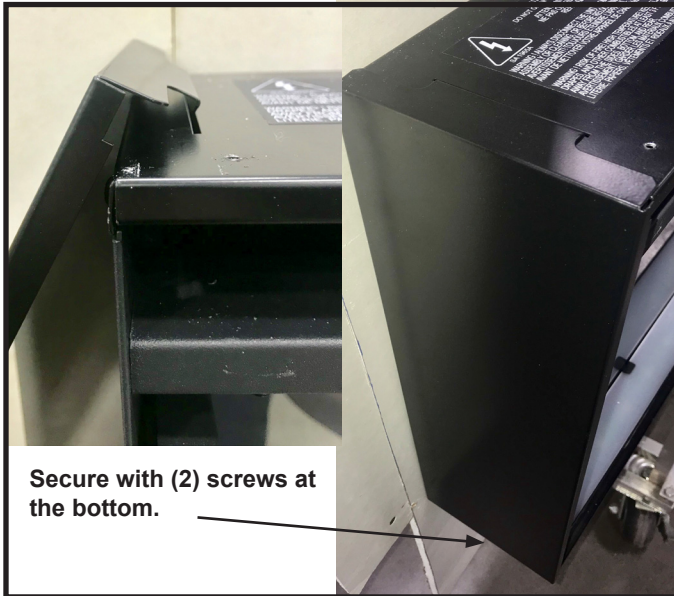

Figure 7 Installing Side Panels
- Install side panels in the orientation shown in Figure 7.
- Fasten each panel with two (2) ST4X8 screws on the bottom of appliance.